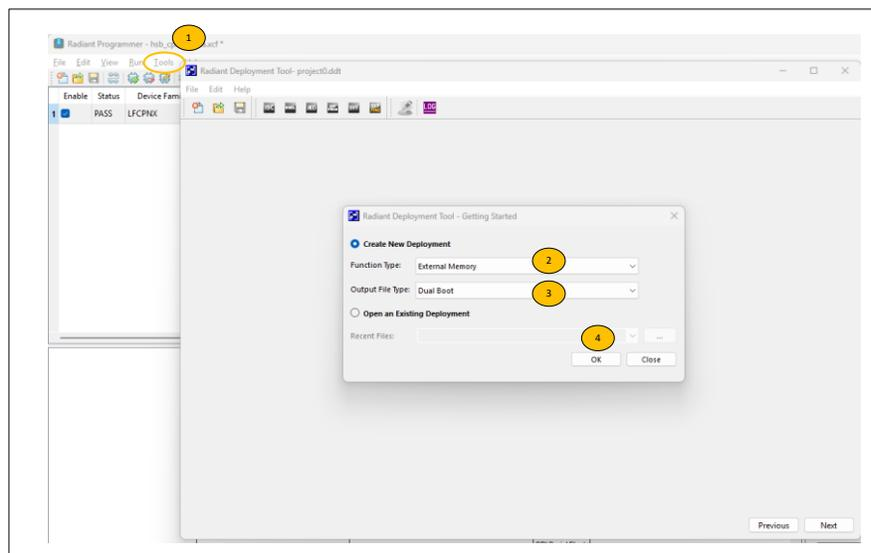

Figure 6.46. Radiant Deployment Tool – Getting Started
- b. In Radiant Programmer, select **Tools > Deployment Tool**. The window shown in Figure 6.46 opens.